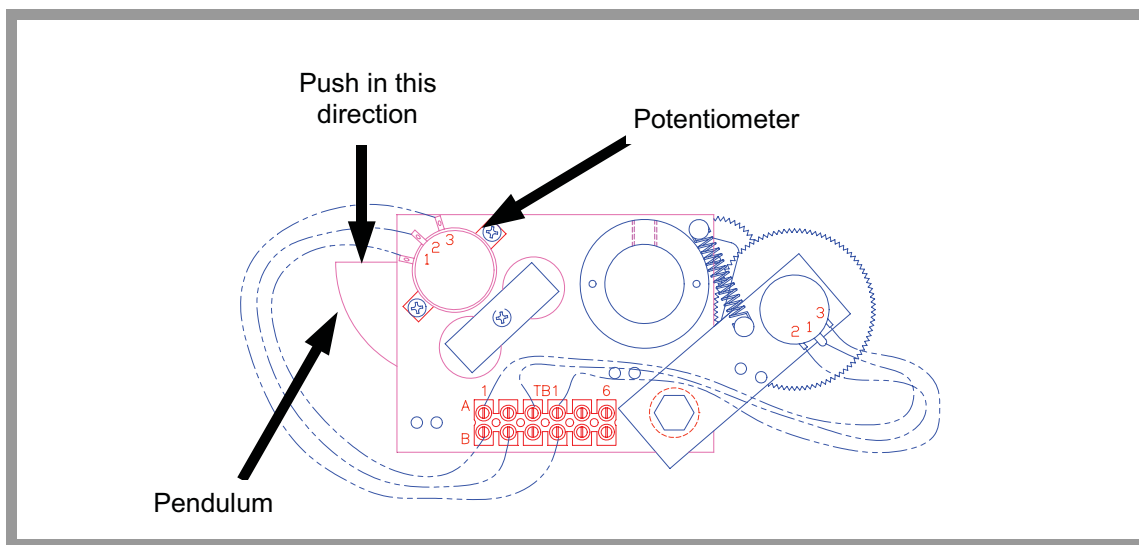

FIGURE 6.5 SENSOR ASSEMBLY
2. Locate the PENDULUM. Refer to Figure 6.5 below.